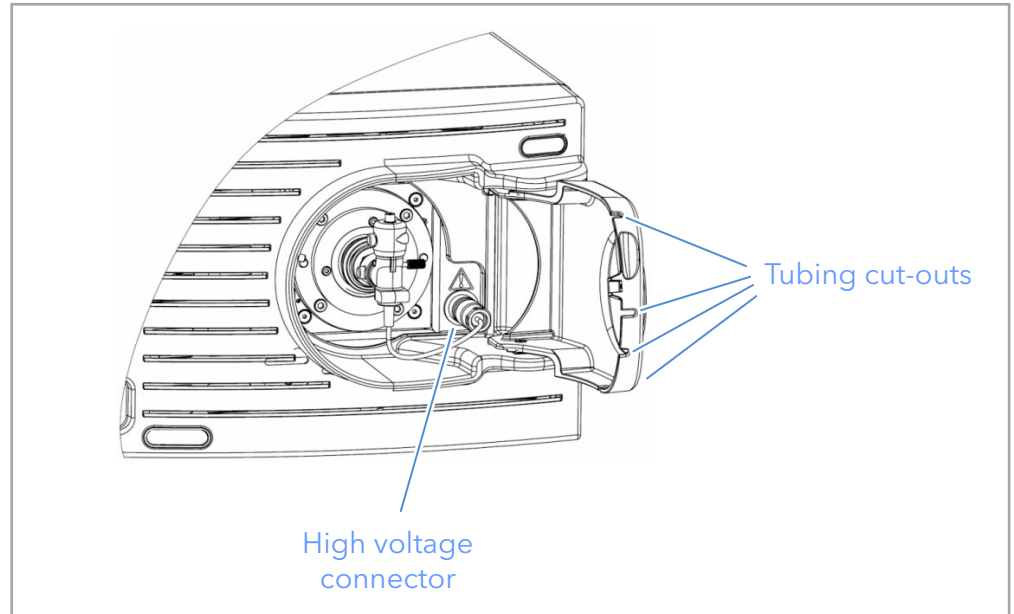

Fig. 15 The spraychip assembly installed on the MiD
6. Connect the high-voltage connector from the DFI/SFI to the high-voltage output located at the front of the MID, see Fig. 15.
Note: Ensure the PEEK tubing lines from the DFI/SFI are fed through the cut-outs in the door, see Fig. 15.